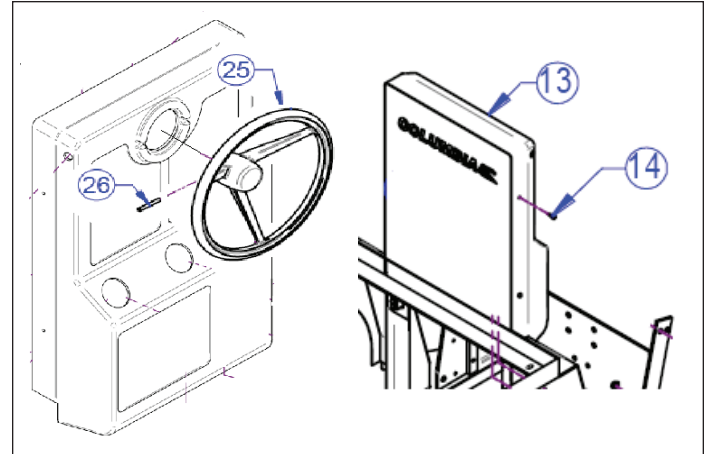

Figure 8-5. Steering Wheel and Console
1. Remove pin (26) using a soft drift of the same size (Figure 8-5). Pull steering wheel from sprocket.
2. Remove four screws (14) on sides of console and pull console away from frame, exposing the upper and lower steering groups.